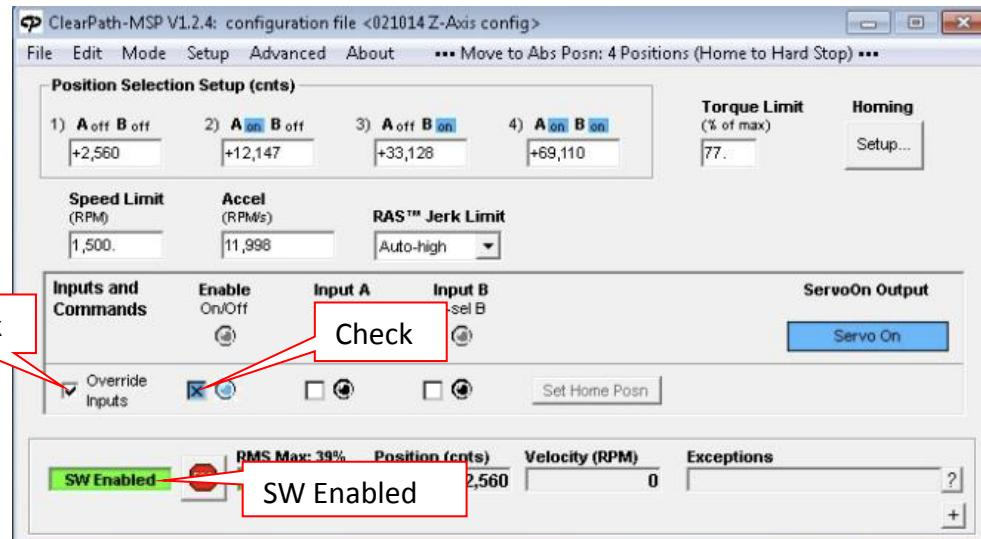

Figure 11 Clear Path MSP Software
8. Check on “Override Inputs” & “Enable” as shown in Figure 11.